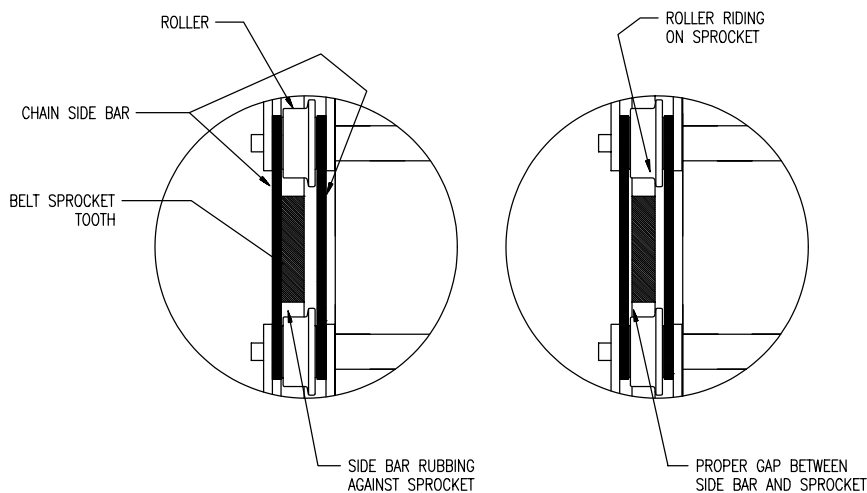

Figure 22: Top view of head or tail shaft at belt sprocket showing proper clearances between belt side bars and sprocket teeth.
7. The belt must be centered on the head shaft and drive shaft (See Figure 22). Clearances between the belt sprocket and the side bars on both sides of the head shaft should be equal. If the belt is not centered, tighten the side where the sprocket is close to the outside side bar (or loosen the other side). Tighten only a couple of turns, then restart the conveyor and observe the belt for at least one complete revolution. Repeat as required until centered.